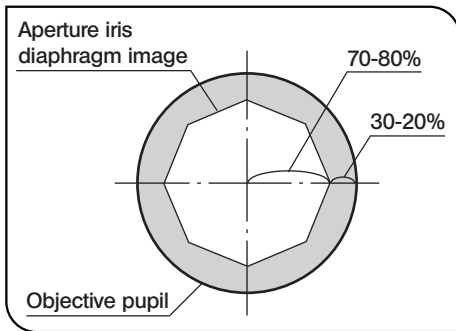
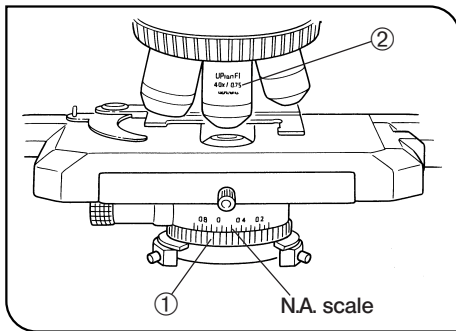

Fig. 34
Fig. 35
#### Aperture Iris Diaphragm (Figs. 34 & 35)
- Since the contrast of microscope specimens is ordinarily low, setting the condenser aperture iris diaphragm to between 70 and 80% of the N.A. ② of the objective in use is usually recommended. Adjust the ratio by removing the eyepiece and looking into the eyepiece sleeve while adjusting the aperture iris diaphragm ring ① until the image shown in Fig. 34 is seen.
② Using the numerical aperture scale:
You can use the condenser numerical aperture scale by adjusting the aperture iris diaphragm ring ①. (Fig. 35)